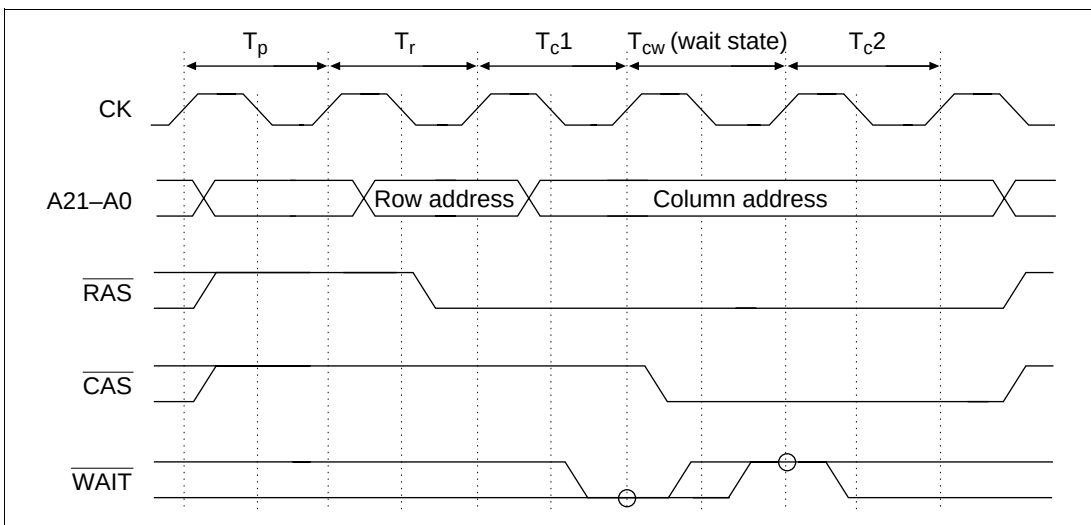

**Figure 8.20 Wait State Timing during DRAM Access (Long Pitch)**
**Control of Insertion of Wait States Using the  $\overline{\text{WAIT}}$  Pin Input Signal:** The number of wait states inserted into the DRAM access cycle can be controlled by setting WCR1 and WCR2. When the corresponding bits in WCR1 and WCR2 are cleared to 0, the column address output cycle ends in 1 state and no wait states are inserted. When the bit is 1, the  $\overline{\text{WAIT}}$  pin input signal is sampled on the rise of the system clock (CK) directly preceding the second state of the column address output cycle and the wait state is inserted as long as the level is low. When a high level is detected, it shifts to the second state. Figure 8.20 shows the wait state timing in a long pitch bus cycle.